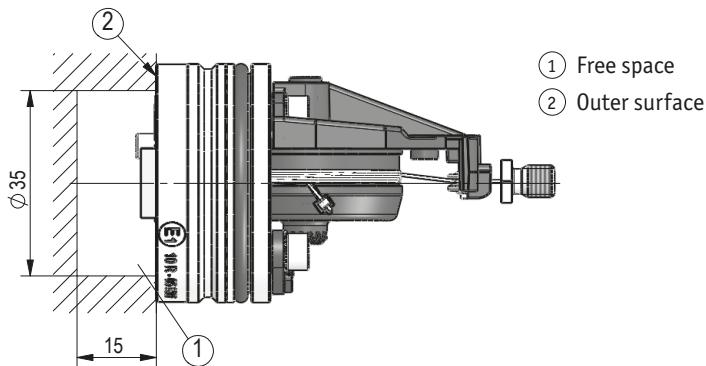

Fig. 3: Mounting free space
- ▶ Observe free space (see Fig. 3). Draw-wire encoder may only be supported on the aluminium outer surface.
1. Plug the cable (1) without flange enclosures on the SGH10. When installing, the cable (1) (e.g. KV1H) should be directed to the cable outlet from the bottom part of the cylinder.
2. Cautiously press the SGH10 with greased sealing ring (3) into the the bottom part of the cylinder. Take care that the plug insert (4) and the cable won't be pinched, but rather that the plug insert be pulled outside through the plug outlet on the bottom part of the cylinder. Join the plug insert with the flange enclosures incl. greased O-ring and screw it 4x at the intended position. The axial securing can be done with a threaded pin (5) as shown in fig. 3. Tighten the threaded pin slightly (approx. 0.5Nm) and then turn back again approx. 0.5 turns.